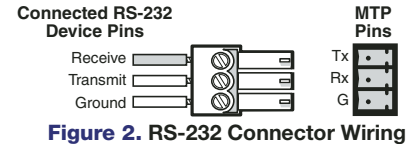
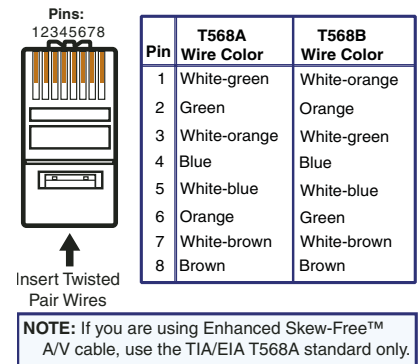

Figure 2. RS-232 Connector Wiring
Figure 3. TP Termination Diagram
- Connect a VGA video source to the Input connector (②).
- Connect a VGA monitor to the Monitor connector (③).
- Connect an RS-232 control device into the RS-232 connector (④). Wire the connector as shown in figure 2.
- Connect a TP cable between the Output connector (⑥) of the transmitter and the Input connector (⑦) of the receiver. Terminate the cable identically with either standard as shown in figure 3.
- **For daisy-chaining**, connect up to eight receivers using TP cables between the Buffered Output connector (⑧) of a receiver and the Input connector (⑦) of a daisy-chained receiver.
- Connect a VGA display to the Output connector (⑨).
- Connect an RS-232 control device into the RS-232 connector (⑩). Wire the RS-232 connector as shown in figure 2.